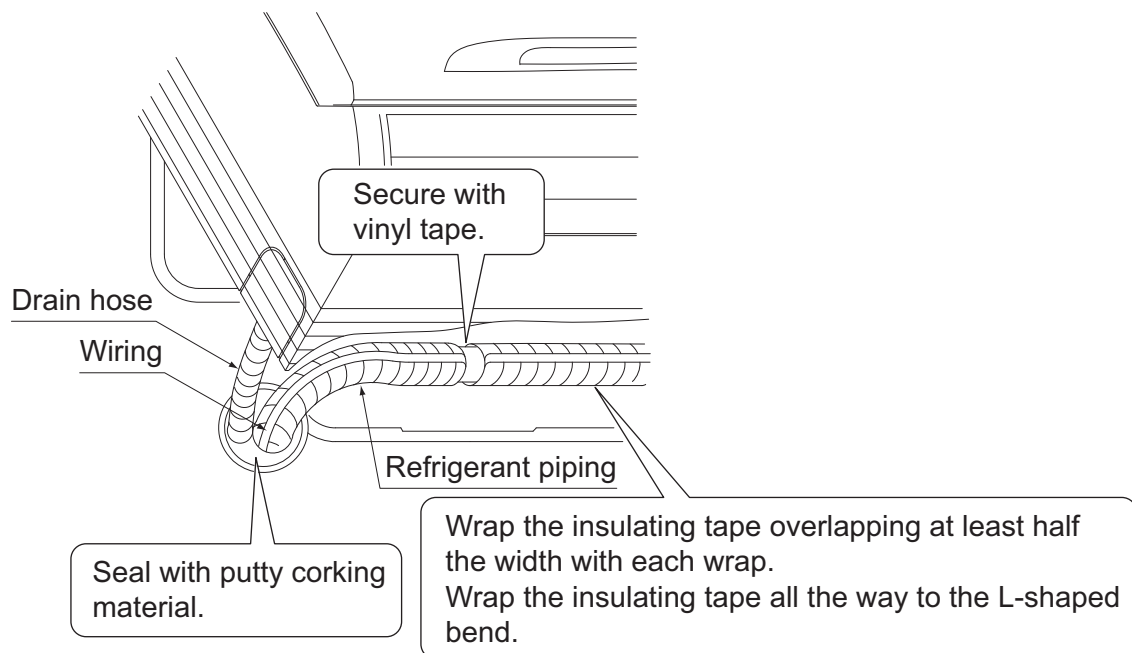

Fig. 12
- (5) Pass the unit wiring, earth wiring, and remote controller wiring through the wiring guide and from the back to the front side of the indoor unit.
- (6) Connect the piping. (Refer to “6. REFRIGERANT PIPING WORK” and Fig. 12)